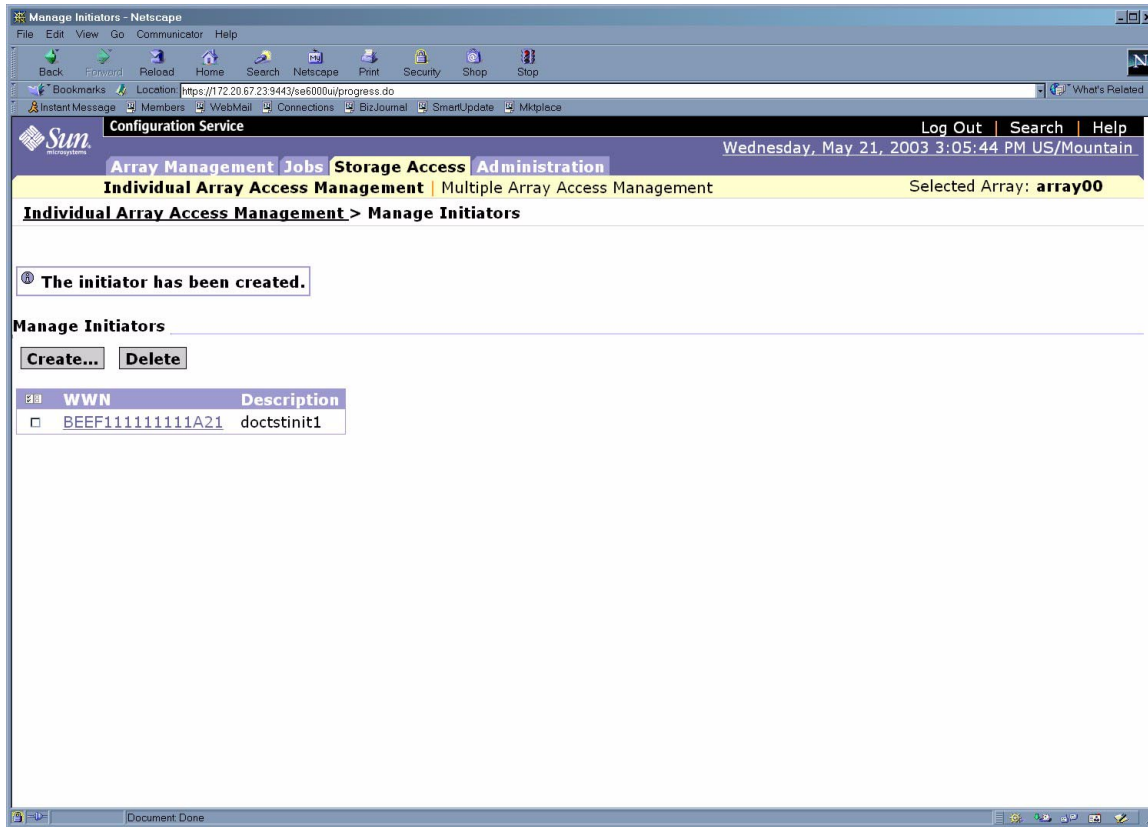

FIGURE 6-34 Manage Initiators—Initiator Created Page
9. Click Save and the successful creation of the initiator is verified as shown in FIGURE 6-34.